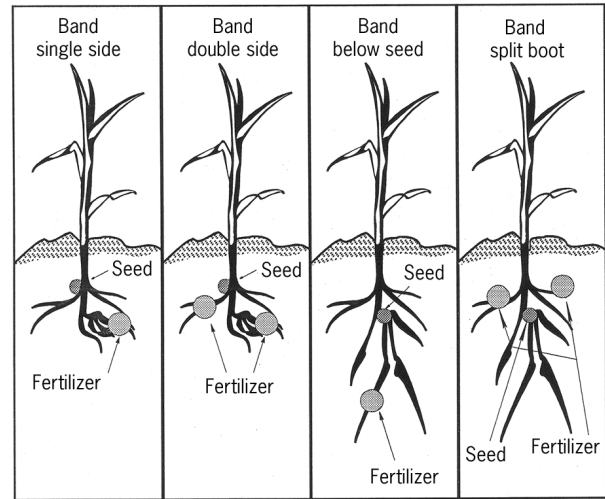

Figure 2. Methods of banding fertilizers. Note that corn plants are used in this example.
Banding—Banding refers to placing nutrients below, above, on one side, or on both sides of the seed or seedlings at planting (figure 2). A surface or subsurface banding treatment after the crop is planted is referred to as a *sidedress application*. All plant nutrients except boron (B) can be successfully banded. Fertilizer bands should be placed at least 2 inches away from the seed to prevent salt damage and ammonia toxicity.